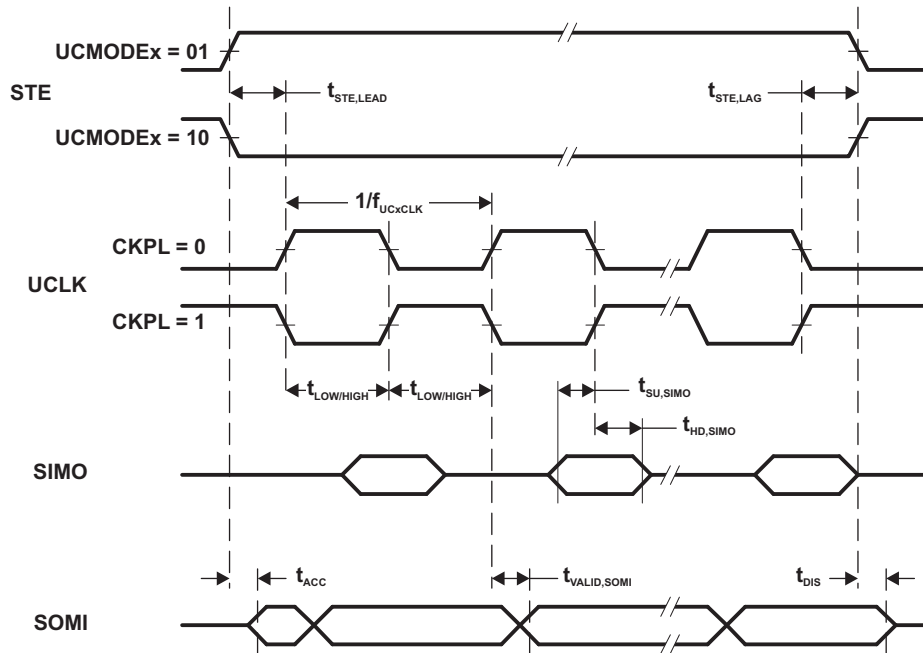

Figure 15. SPI Slave Mode, CKPH = 0
(2) Specifies the time to drive the next valid data to the SOMI output after the output changing UCLK clock edge. See the timing diagrams in Figure 15 and Figure 16.
(3) Specifies how long data on the SOMI output is valid after the output changing UCLK clock edge. See the timing diagrams in Figure 15 and Figure 16.